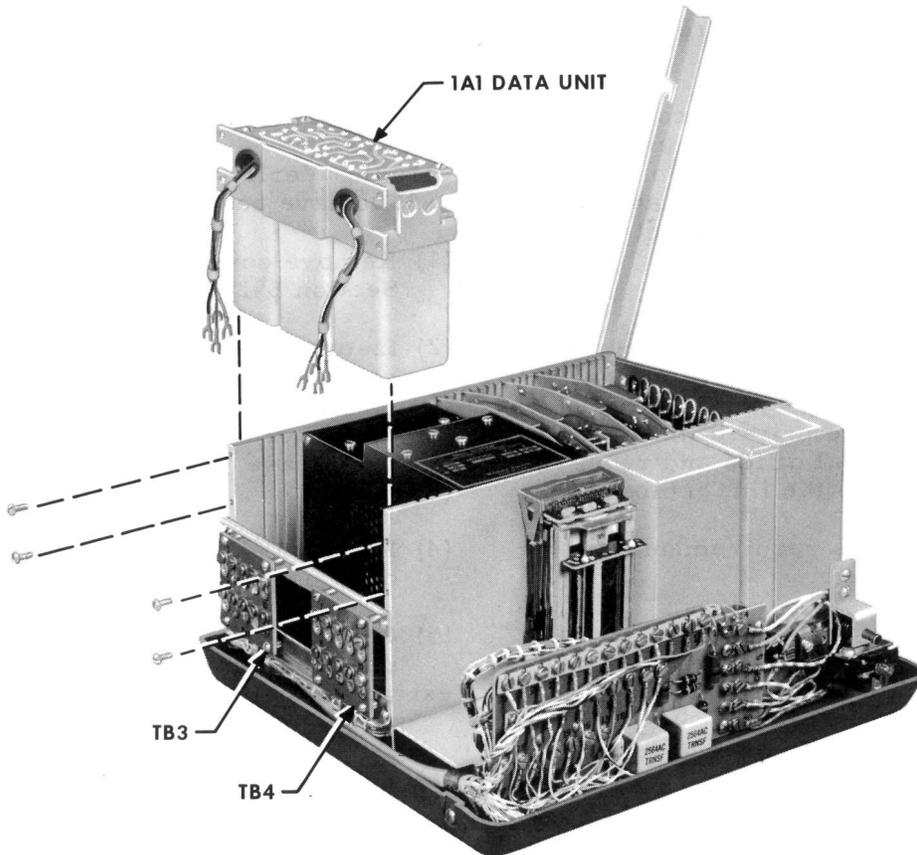

Fig. 2 - Mounting Detail for 1A1 Data Unit
- (5) Remove the four data unit retaining screws (Fig. 2).
- (6) Loosen terminal screws on TB3 and TB4 and remove spade-tipped leads.
- (7) Grasp the data unit near top and carefully remove by pulling straight up.
- (8) Insert new data unit.
- (9) Replace four retaining screws (Fig. 2).
- (10) Connect new data unit wiring. (Table A shows connection information.)
- (11) Retest data set as outlined in Section 592-016-500.